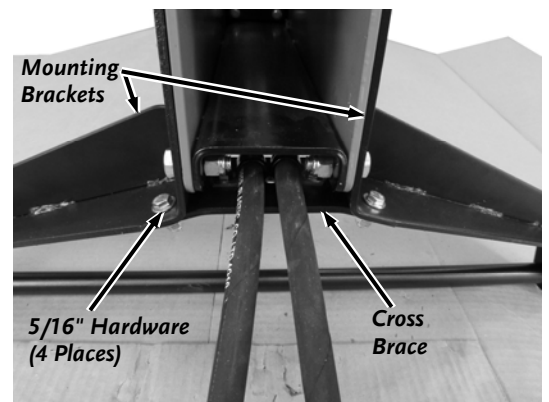

Figure 11
14. Position the Cross Brace onto the Mounting Brackets and secure with four 5/16" Bolts, Washers (one on bolt side and one on nut side), and Locknuts using two 1/2" Wrenches (**Figure 11**).